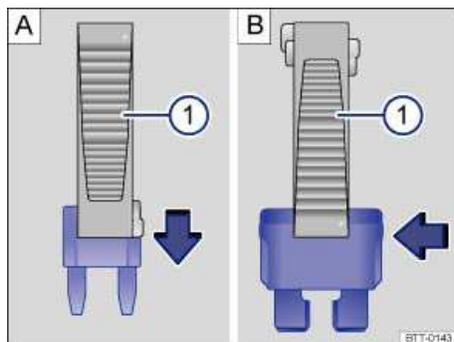

Fig. 199 Removing or inserting a fuse using the plastic tweezers 1.
- For *small fuses*, slide the tweezers ⇒ fig. 199 \(1\) onto the fuse from the top **A**.
- For *larger fuses*, slide the tweezers (1) onto the fuse from the side **B**.